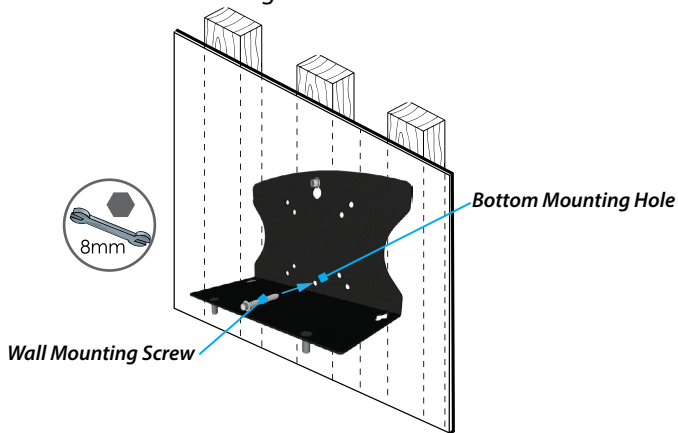

Figure 4
10. Insert the remaining **Wall Mounting Screw** (x 1) through the **Bottom Mounting Hole**. Use the **11/32 in (8 mm) Wrench** to **Tighten** all the **Wall Mounting Screws** (x 2) to secure the **Wall Mount Bracket**. Figure 4.